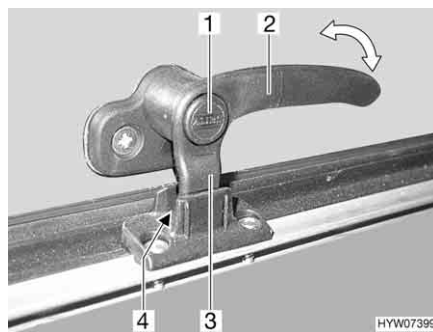
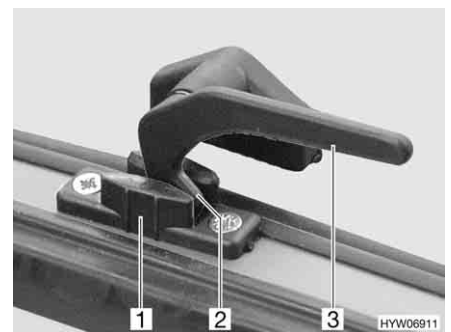

Fig. 99 Catch lever with safety knob in "continuous ventilation" position
Fig. 100 Catch lever in "continuous ventilation" position
- "Continuous ventilation" (Fig. 99 and Fig. 100)
- Press and hold the security button (Fig. 99,1), if present.
- Turn all catch levers (Fig. 99,2 or Fig. 100,3) a quarter turn towards the centre of the skylight.
- Return all catch levers to their initial position. The locking catch (Fig. 99,3 or Fig. 100,2) has to be moved into the recess of the skylight lock (Fig. 99,4 or Fig. 100,1).